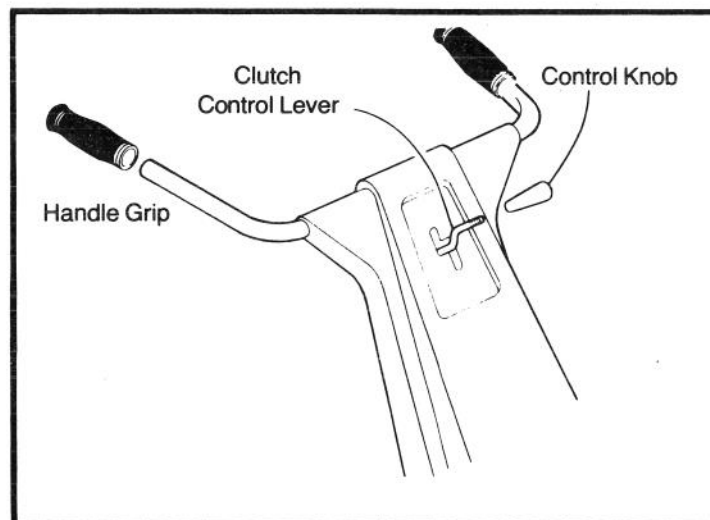

FIGURE 3
4. Slide handle grips* onto the handle, Fig. 3. If grips will not slip on completely, place a block of wood against grip and tap with hammer until grip is all the way on.
5. Turn the control knob* onto the clutch control lever, Fig. 3.